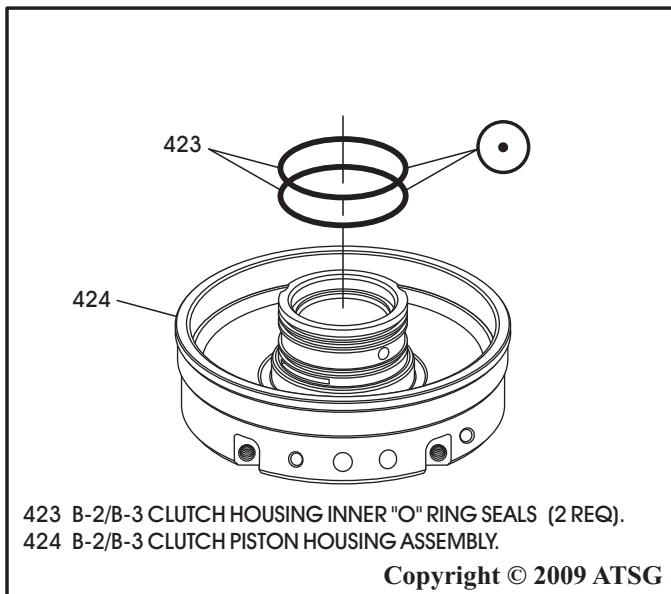

Figure 156
11. Install two new "O" ring seals into the grooves of the B-2/B-3 clutch piston housing, as shown in Figure 156, and lubricate with small amount of Trans-Jel®.